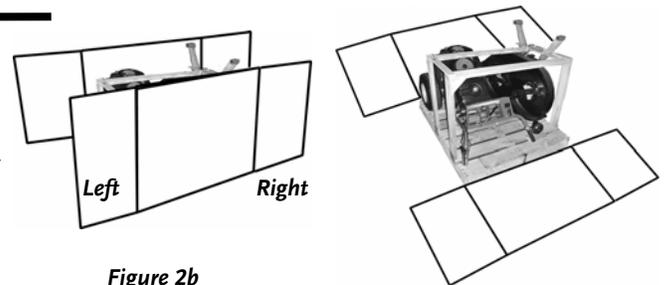

Figure 2b
3. Pry open the Left Seam and pull the Panels outward as shown (**Figure 2b**). Repeat for the Right Seam and pull the Sides down.